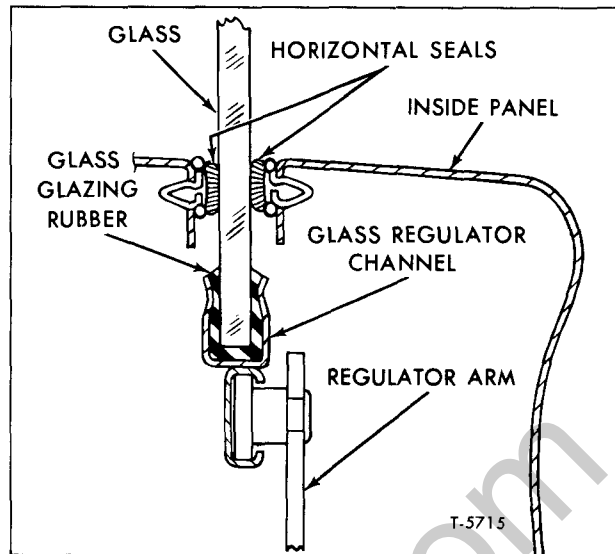

Figure 22—Cross Section of Window Regulator Channel
2. Using a flat-blade screwdriver, pry weatherstrips from door (fig. 22).